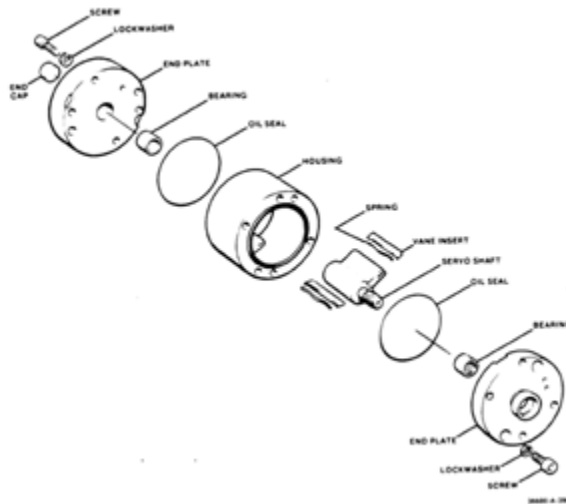

Figure 5-42. Vane Assembly
10. Replace bearings, if required, in end plate. See Figure 5-42. Use a brass punch through bearing end to remove end cap. Then reverse end plate and drive out bearing. Press fit new bearings into both end plates.